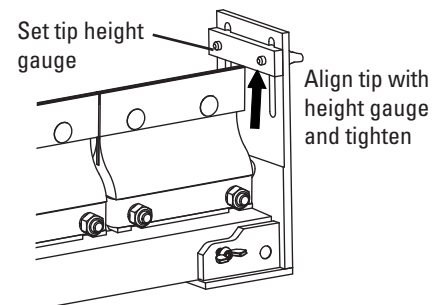

Fig. 2
2. Choose the tensioner position. The tensioner is shipped mounted in the push-up position. Depending upon the space constraints of the installation, the tensioner can be optionally mounted in a pull-up position. To do this, loosen the threaded rod lock nut, unscrew the threaded rod and remove adjusting bracket lock bolt. Then move the adjusting bracket and threaded rod to the top of the clamp blocks (Fig. 2) and tighten threaded rod lock nut.
4. Set the tip height gauge on the Cartridge Tip Alignment Tool so that the loosely installed tip can push up into the corner of the tool (Fig. 2).
5. Tighten the first tip while holding it tight to the Cartridge Tip Alignment Tool (Fig. 2).